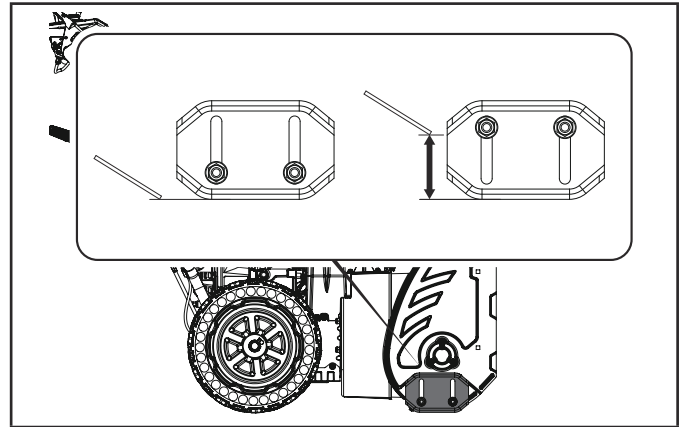

Figure 24
- On flat ground, e.g. asphalt, the shoes should be adjusted to about 1/8 in. (5 mm) (the distance from the auger to the ground) (Fig. 24).
- On uneven ground, e.g. gravel paths, the shoes should be adjusted to about 1 1/8 in. (30 mm) (the distance from the auger to the ground) (Fig. 24).